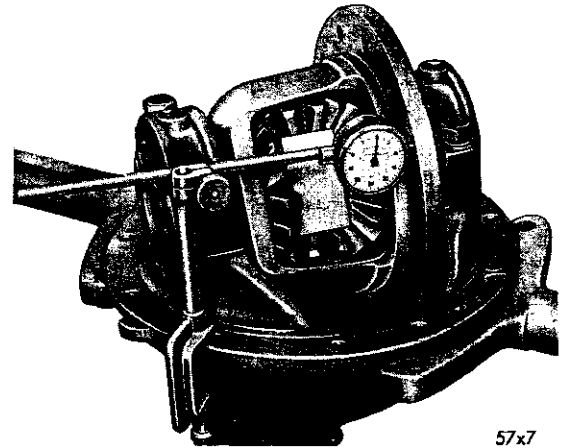
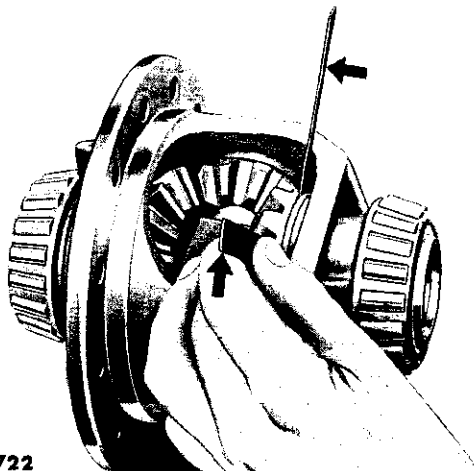

Fig. 12—Measuring Drive Gear Mounting Flange Runout
Fig. 13—Measuring Differential Gear Clearance
(1) Hold the drive gear in an upright position using brass jaws in a vise. With a $\frac{5}{8}$ inch socket wrench, remove the drive gear to differential attaching cap screws. **The drive gear, attaching screws have left hand threads.**
(2) Remove the assembly from the vise and with a fiber mallet, tap the drive gear off the case.
(3) If the drive gear runout was found to be more than .005 inch (Paragraph 3 "Carrier Disassembly") test the case as follows: Install the differential with bearing cups in the carrier.
(4) Install the bearing caps, attaching bolts and bearing adjusters. Snug the bearing cap bolts down lightly and screw in both adjusters with spanner wrench Tool C-406A.
(5) Tighten the support cap bolts and adjusters sufficiently to prevent any end play in the bearings.
(6) Attach a dial indicator Tool C-430 or Tool C-3339 to the differential carrier flange so the pointer of the indicator squarely contacts the drive gear surface of the differential case flange between the outer edge of the flange and the drive gear bolt holes (Fig. 12).
(7) Rotate the differential several complete revolutions while noting the total indicator reading. This reading must not exceed .003 inch runout. If the runout is in excess of .003 inch, the differential case must be replaced.
(8) Measure the side gear clearances between the gear and case (Fig. 13). Clearances should be from .001 to .012 inch. If the clearance exceeds .012 inch, install new thrust washers.
(9) From the back side of the drive gear flange, drive the differential pinion shaft lock pin out of the case with a flat nose drift and hammer. The lock pin is a 1/4 inch hollow split type. (The hole is reamed only part way through, making it necessary to remove the lock pin from one direction.)
(10) Drive the pinion shaft out with a brass drift and hammer and remove the axle drive shaft thrust block.
(11) Rotate one differential side gear until each pinion appears at the large opening of the case. Remove each pinion and thrust washer at that time.
(12) Remove the two differential side gears and thrust washers.